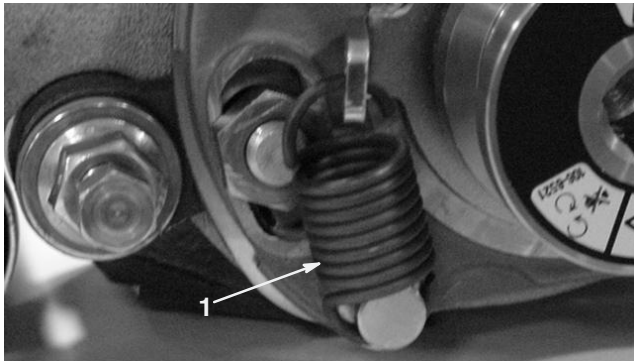

Figure 22
- 39. Rotate the idler pulley until shift lever spring can be hooked into the hole in the pulley bracket and onto the stud as shown in figure 22.